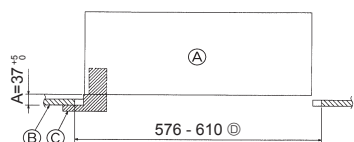

Fig. 5-2
②	Screw with washer	4	M5 × 0.8 × 28 (mm)
③	Gauge	1
④	Junction wire for signal receiver	1	Included when equipped with the signal receiver.
⑤	Junction wire for i-See sensor	1	Included when equipped with the i-See sensor.
⑥	Fastener	2	Included when equipped with the signal receiver.
⑦	Fastener	2	Included when equipped with the i-See sensor.
⑧	Wireless remote controller	1	Included when equipped with the wireless remote controller.
⑨	Remote controller holder	1	Included when equipped with the wireless remote controller.
⑩	LR6 AA batteries	2	Included when equipped with the wireless remote controller.
⑪	3.5 × 16 tapping screws	2	Included when equipped with the wireless remote controller.
5.2. Preparing to attach the grille (Fig. 5-2)